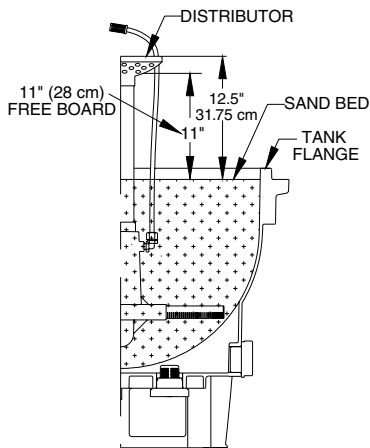

Figure 2 - Freeboard measurement
4. When full, top of sand bed should be about 12-1/2" (31.75 cm) below top of distributor (about 1-1/2" (3.8 cm) below tank flange (see Figure 2).